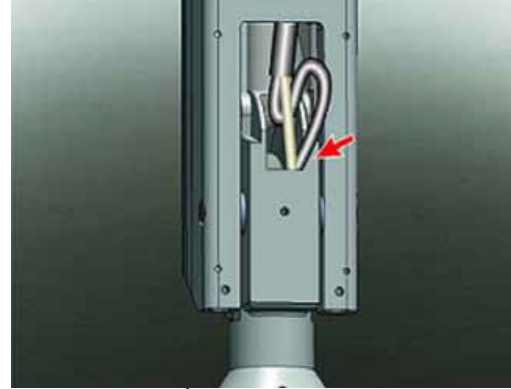
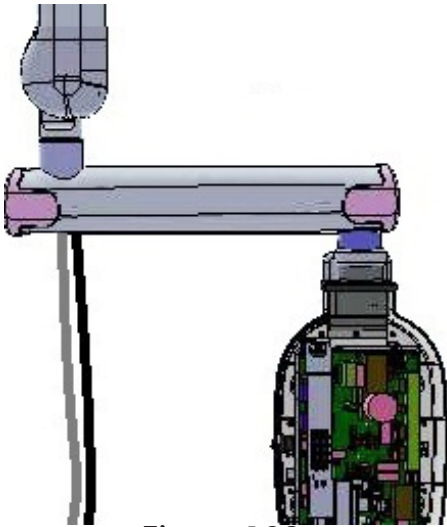
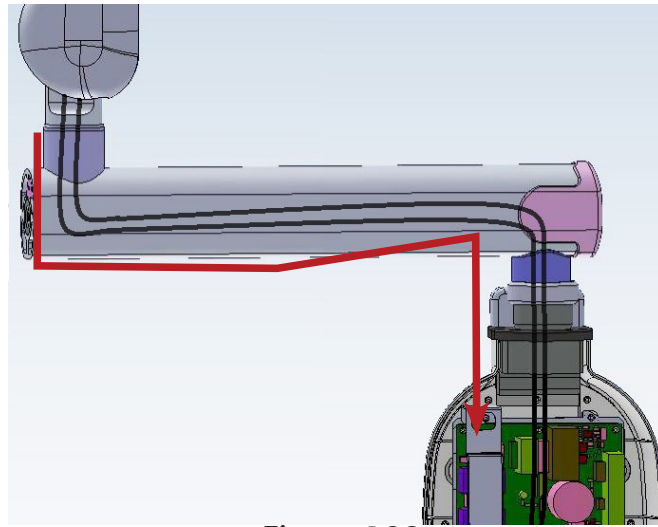

Figure 107
Figure 108
Figure 109
- Insert the scissor-arm cable (First communication cable and then Inverter power cable) into the scissor arm swivel guide as shown in the Figure 107 such that it comes out from the bottom hole of the straight arm as shown in the Figure 108 . Use guide wire to route the cables through the straight arm till it comes inside the base unit as shown in Figure 109 .